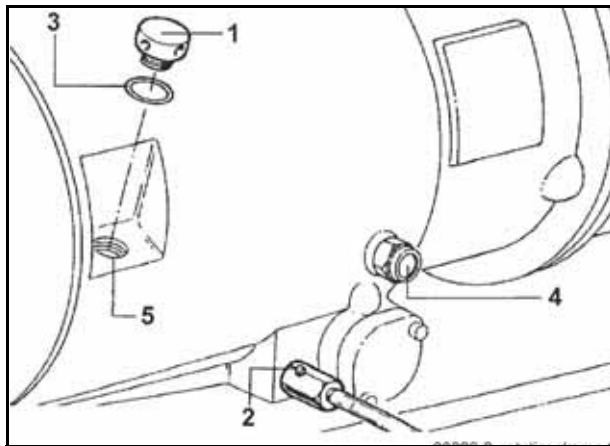

Fig. 380 Maintenance openings on compressor
- The sight glass **(4)** can be used to check the oil level **(Fig. 380)**.
- Carefully open the filler plug **(1)** (**Fig. 380**) to equalise the pressure.